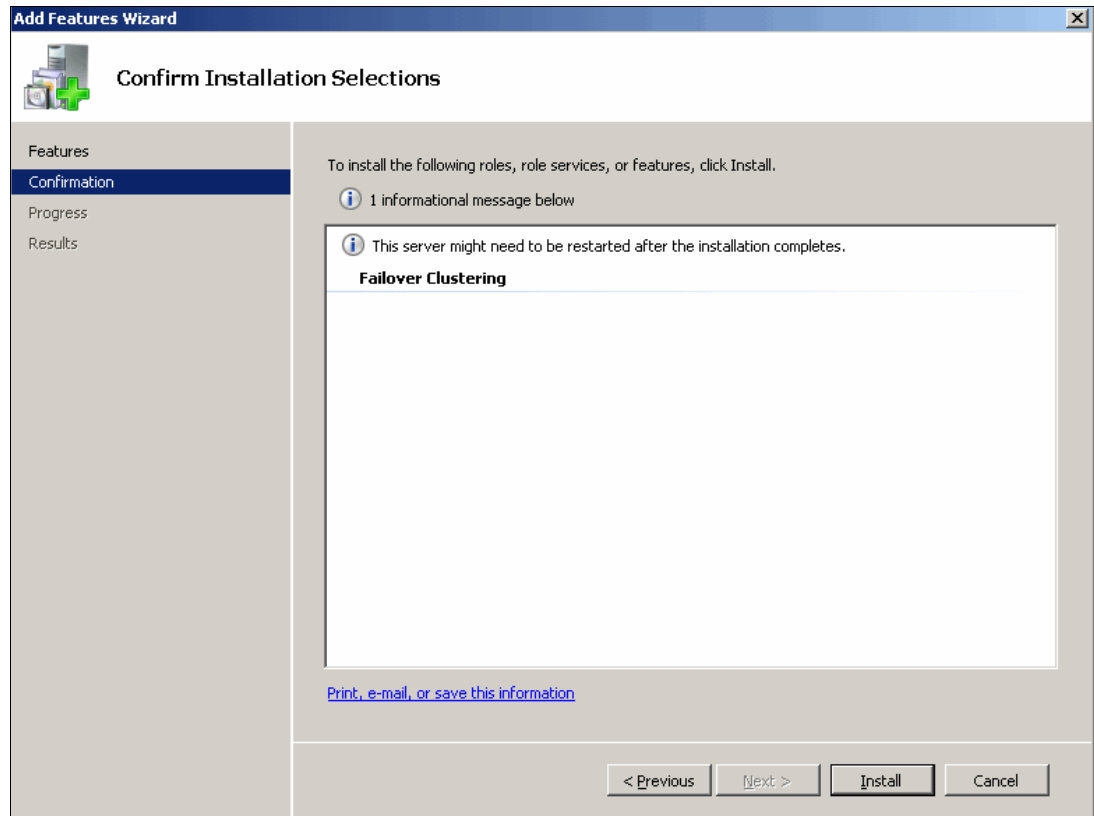

Figure 19-11 Confirm Installation Selection
3. Confirm installation selection and click **Install** to enable the failover clustering feature as shown in Figure 19-11.